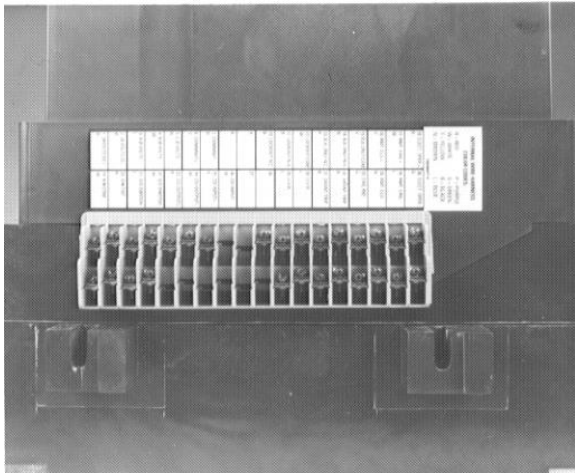

Figure 16: Terminal block mounted on the right side of the new HPC Switch.
Figure 16 illustrates the terminal block installed on the right side of the switch. Table 5 lists the device connections to the terminal block. Each terminal point will accept the following connections:
① Do not apply voltage; see wiring diagram (Figure 16). Place a jump wire from terminal 17 to terminal 35 for automatic charge
② If RELT is provided on the Trip Unit, GF alarm cannot be the programmed output. GF alarm can however be communicated on Modbus if the trip unit has communication capability